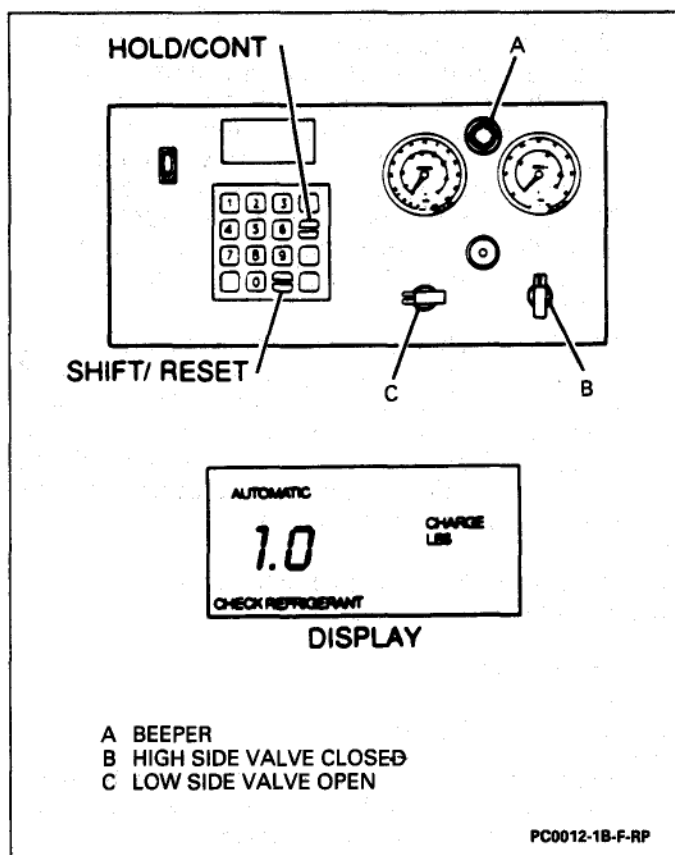

Figure 13 – System Charging (2 of 2)
- A. Close the high-side valve (Figure 13).